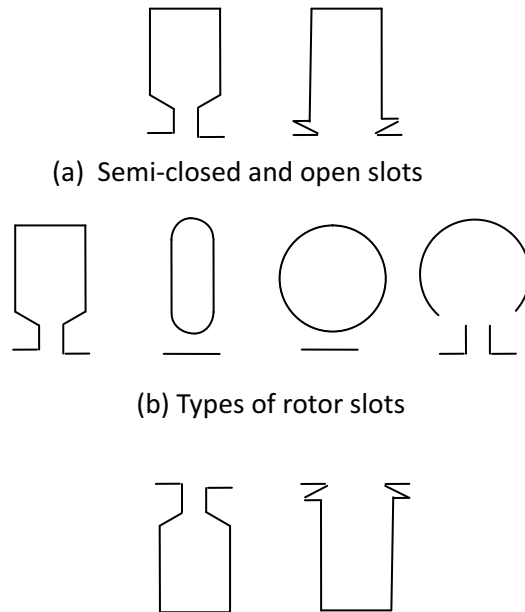

Fig.3.7 - Different shapes of slots
3.2 DIFFERENT SHAPE OF SLOTS : There are different shapes of slots used for electrical machines. The slots used in the stator of induction motors, may be completely open or semi-closed as shown in Fig. 3.7 (a).
The types of rotor slots used for squirrel cage induction rotor may be either closed or semi-closed types as shown in Fig. 3.7 (b).
The slots used in the armature of dc machines, may be completely open or semi-closed as shown in Fig. 3.7 (c).